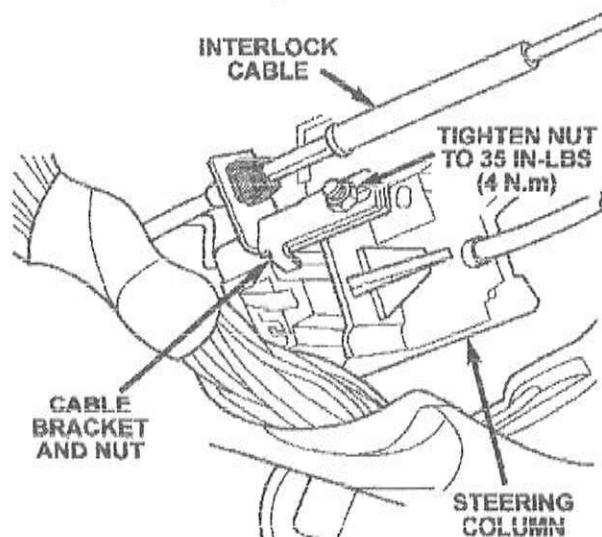

Figure 23
14. Remove the interlock cable bracket nut and remove the bracket from the stud (Figure 23).
30. Tighten the steering column bracket mounting nut to 35 in-lbs (4 N·m) (Figure 23).